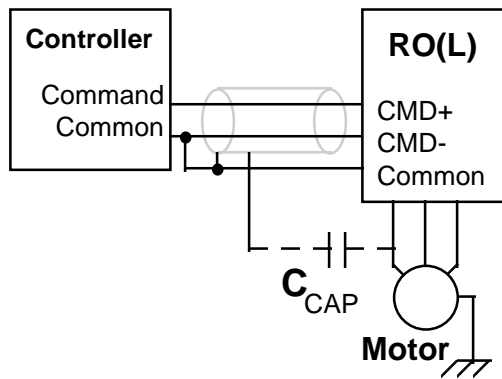

Figure 2.1 Capacitive Coupling
1. Capacitive or electrostatic coupling from motor leads to signal wires. The path is shown below in Figure 2.1 as parasitic capacitance " C_{CAP} ". This type of noise is usually the predominant one in motor controllers.
Figure 2.1 below shows a typical servo system using the RO(L) amplifier. The main source of noise is usually capacitive coupling. Voltage transients generated from power semiconductors couple to the ANALOG CMD lines through parasitic capacitance C_{CAP} . Reduce C_{CAP} by using a shielded, twisted-pair conductor for the ANALOG CMD. Also, separate signal and motor leads as much as is practical including routing them in separate conduits or wire ways; separation also reduces magnetic coupling. Finally, connect the motor frame to earth ground.
Voltage drops across ground leads become more significant as the distance between the controller and amplifier increase. Usually, the RO(L) differential input will correct this problem when connected as shown in Figure 2.1. Bear in mind that even though the commons of the controller and amplifier are electrically connected, there usually exists a small voltage difference between the units, especially if they are well separated. The differential input, with the controller common connected to ANALOG CMD-, compensates for this in most cases.
The commons of the controller and amplifier must be connected as shown in Figure 2.1. The differential input compensates only for sub-volt ground noise. The system will not operate properly if there is a substantial potential across the commons of the two units.